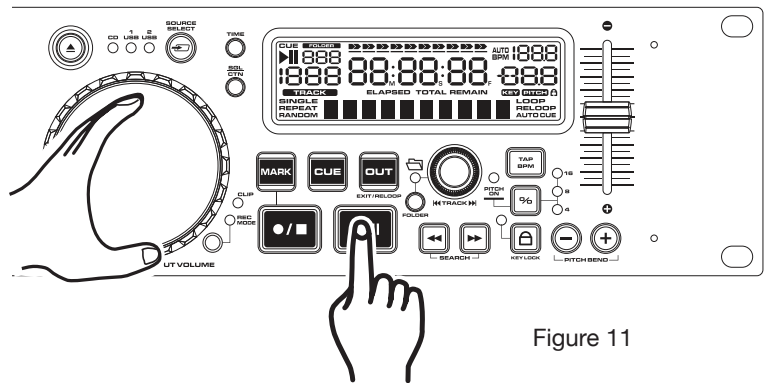

Figure 11
This feature allows you to scroll through a track to set a cue, or loop point. To use the scroll function you must first be in Pause Mode or Cue Mode. Once you are in Pause or Cue mode, use your finger tip or hand to turn the *JOG WHEEL (20)* to scroll through the track (figure 11). Turning the wheel in a clockwise direction will advance the frame search and turning the wheel in a counter-clockwise direction rewinds the frame search. When you use the *JOG WHEEL (20)* the monitor (headphone level) of a mixer allows you to here what you are scrolling through. Once you reach your desired starting point you can set a cue (starting) point by pressing the *PLAY/PAUSE BUTTON (16)* as in figure 11. Pressing the *CUE BUTTON (18)* will return the disc to the cue point just set.